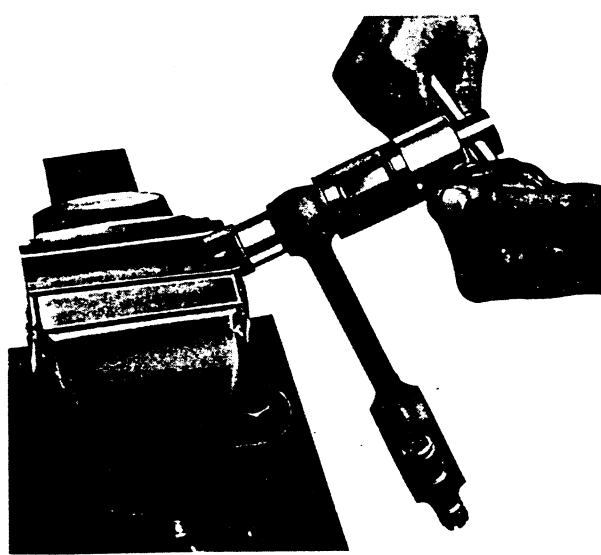

FIG. 141.
- 1. Using Service Tool 20S FT.6201, with adaptors 9 and 10, mounted in a vice as shown in Fig. 141, remove old bush by pressing the replacement into position. The oil hole in the new bush must first be carefully aligned with the drilling feed in the shank of the connecting rod.